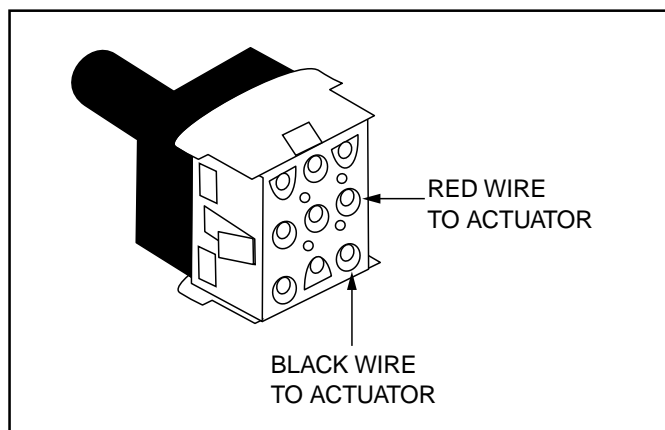

Figure 4.58. 9-Pin Connector Test
7. Disconnect the wiring harness to the actuator under the seat. Using a multimeter set to measure resistance, check continuity from the black wire leading to the actuator to the red wire leading to the actuator. See figure 4.58. If continuity is present in this test, replace the wiring harness.